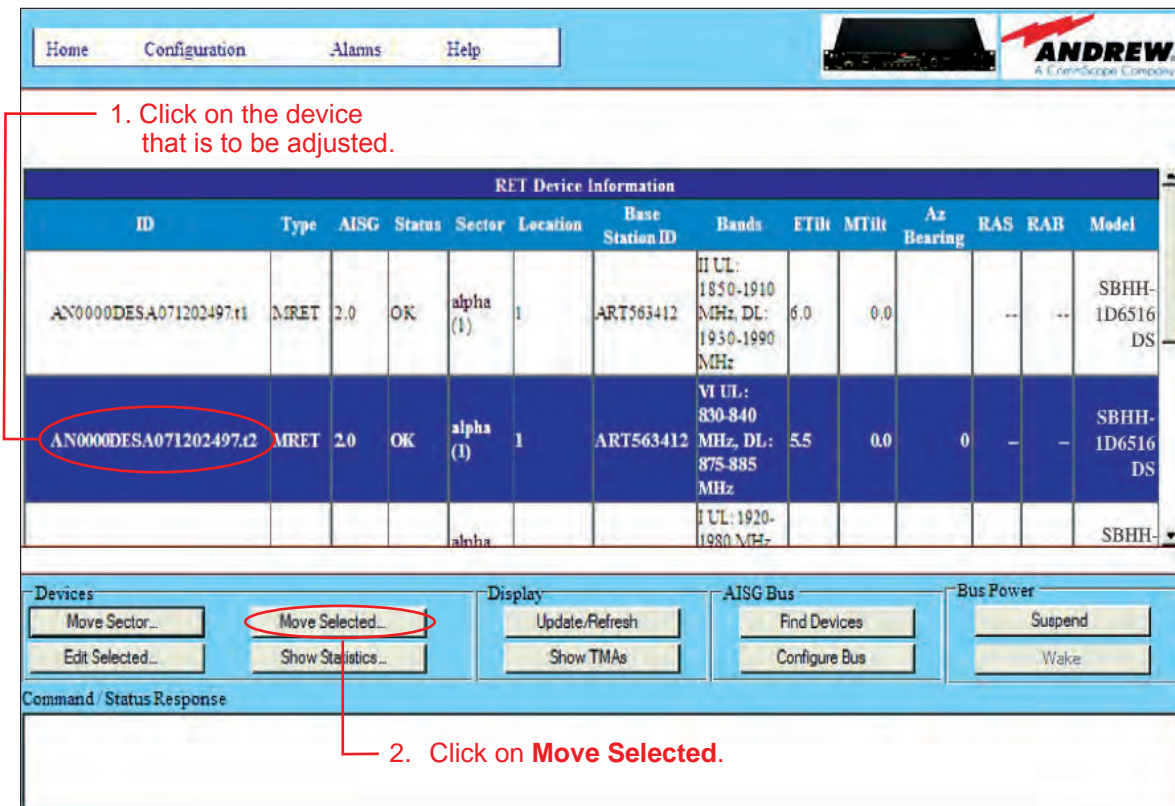

Figure 16-1. Selecting Device To Be Adjusted.
1. From the controller's main interface screen, select the device to be moved (Figure 16-1).
2. Click on **Move Selected** (Figure 16-1).